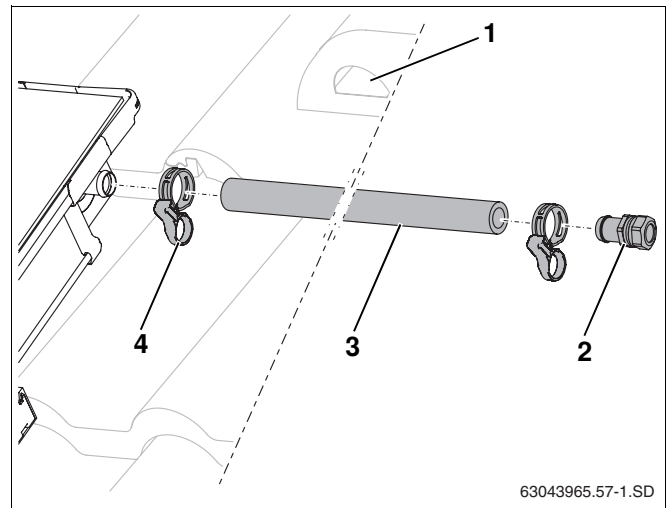

Fig. 53 Fitting flow line (with no vent on roof)
- Push the long solar hose (1000 mm, Fig. 53, **Item 3**) onto the flow connection on the collector array and fix in place using hose clip (Fig. 53, **Item 4**).
- Insert hose nozzle with compression fitting (Fig. 53, **Item 2**) into the solar hose as far as it will go, and fix in place with hose clip.
- Connect header pipe to the R³/₄ hose nozzle with compression fitting (15 mm) (Fig. 53, **Item 2**).